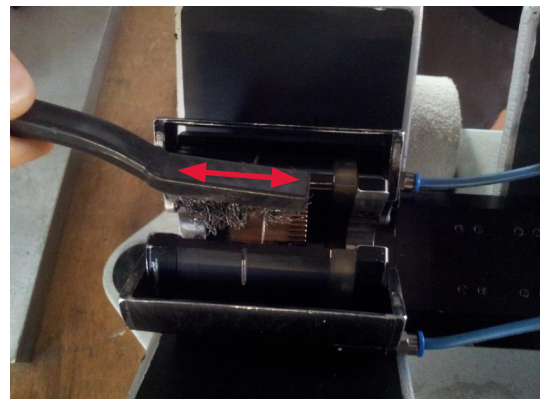

Fig. 3 Brushing teeth
3. Brushing the toothing with the wire brush as shown in Fig. 3.